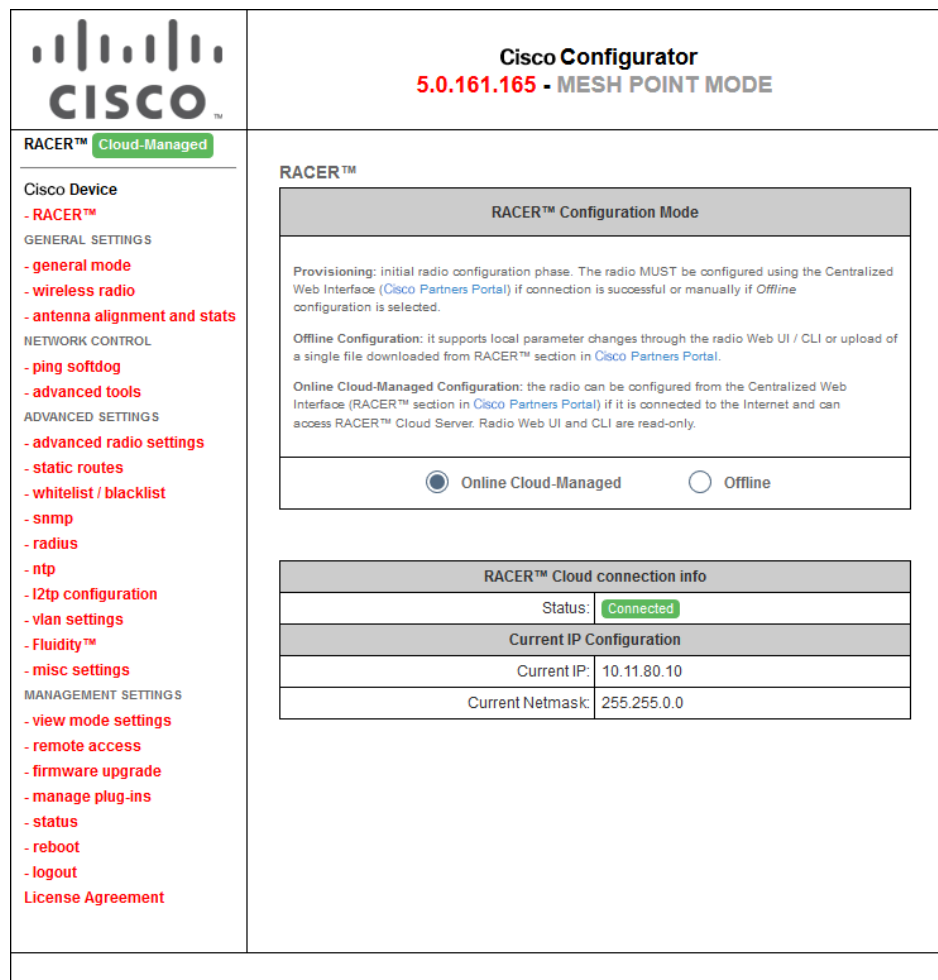

Figure 20. Cisco Configurator (landing page)
- The Configurator landing page will be shown (Figure 20 (page 66)).